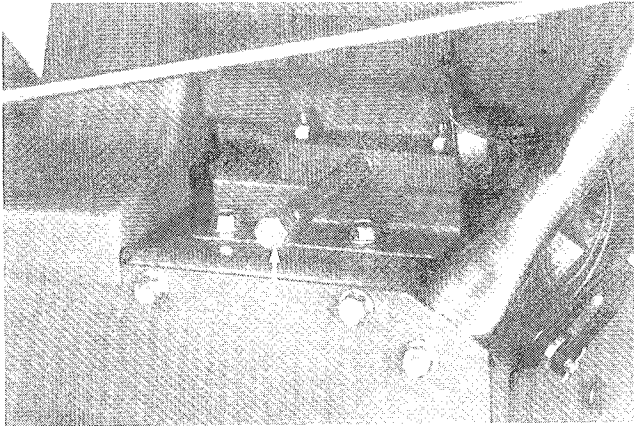

Figure 25
2. Clean area around oil drain cap. Next, slide oil drain pan below drain extension; then remove oil drain cap (Fig. 25).